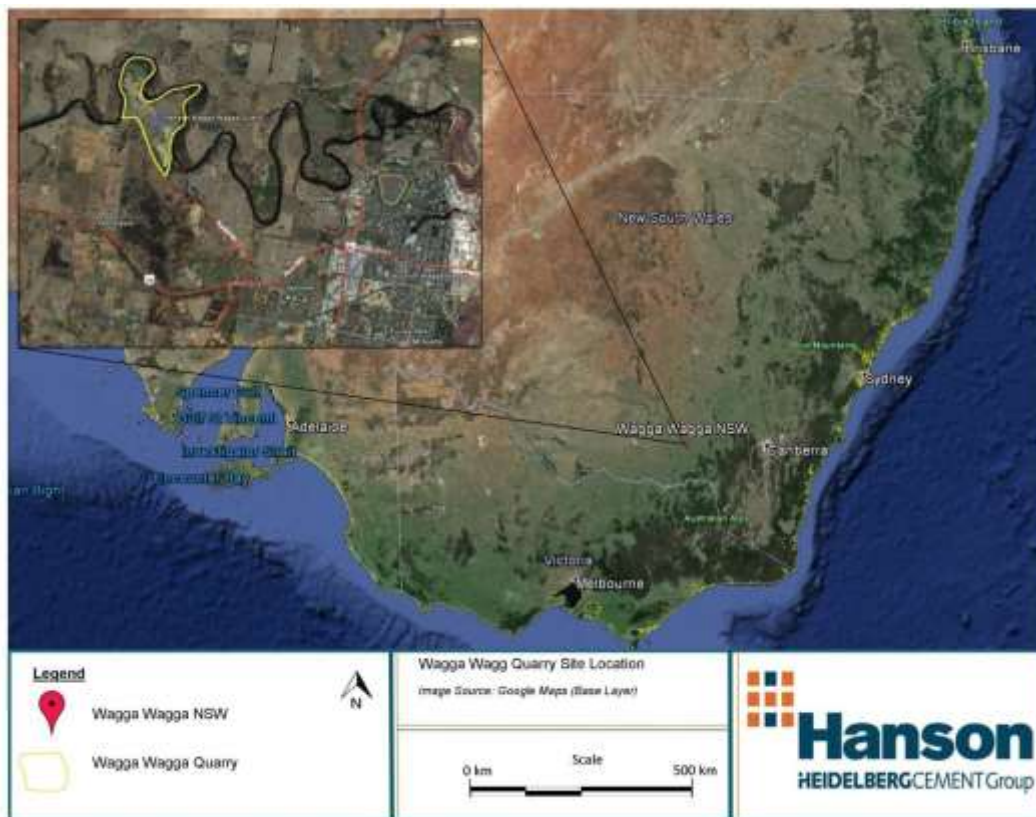

Figure 1- Project Location
Hanson Construction Materials Pty Ltd (Hanson) proposes to extend its Wagga Wagga sand and gravel quarry in a project known as the Wagga Wagga Quarry Extension (see Figure 1). The major components of the project are summarised in Table 1 and are depicted in Figures 2 and 3. The project is described in full in Hanson's Environmental Assessment (EA) prepared in April 2010.